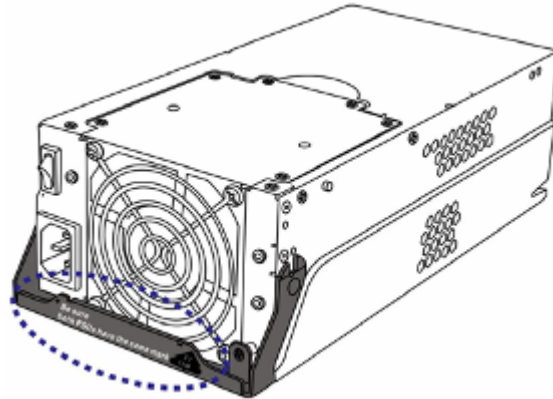

Figure 5-15: Label on the PSU Handle
- f* **Two (2) redundant PSUs:** The subsystem is powered by with two (2) 530W, fully redundant, hot-swappable PSUs. These modules are accessed through the subsystem rear panel.
- f* **PSU identification text:** Before you insert a replacement PSU, be sure that it has the same identification ID text on its extraction handle as that shown on the remaining PSU. Double-check to avoid mixing a similar yet incompatible module from previous X4 series. (See *Figure 5-15*)